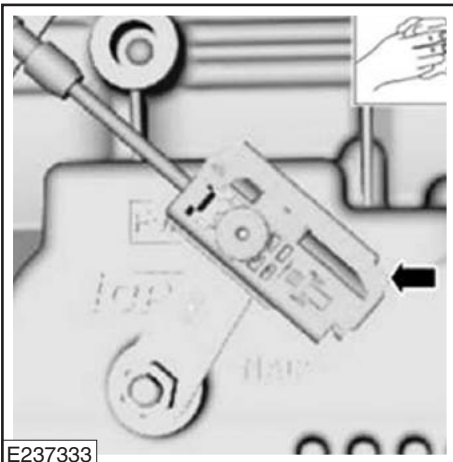

Figure 88
1. Clean the cable adjuster lock (**Fig. 88**).